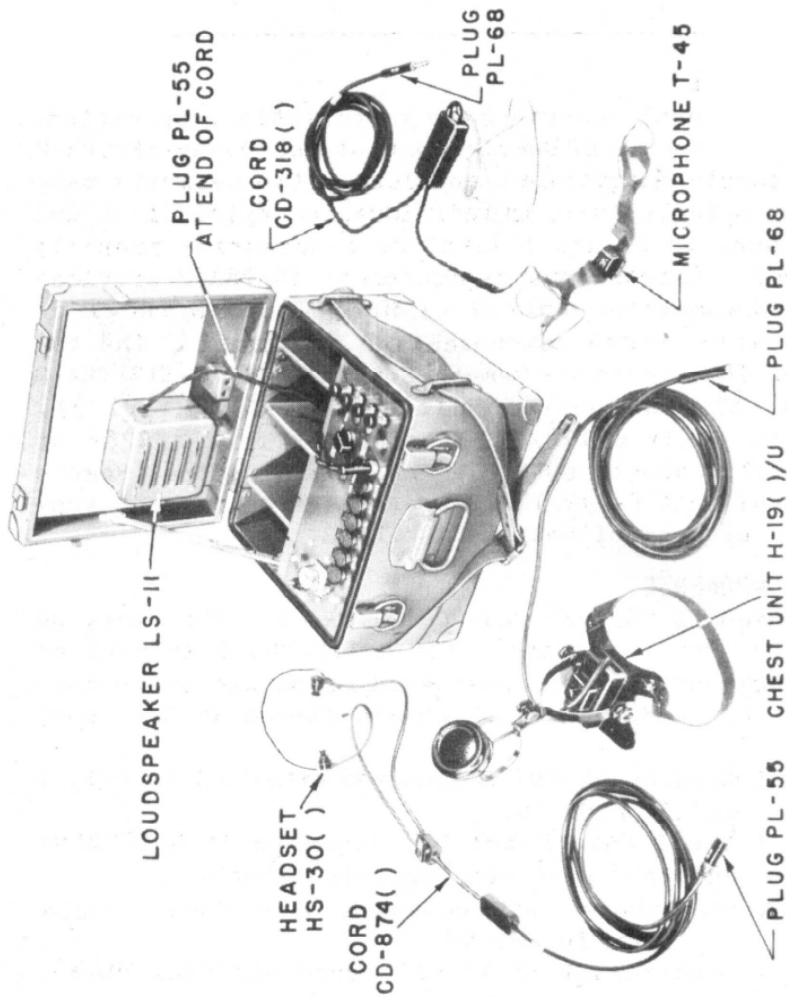
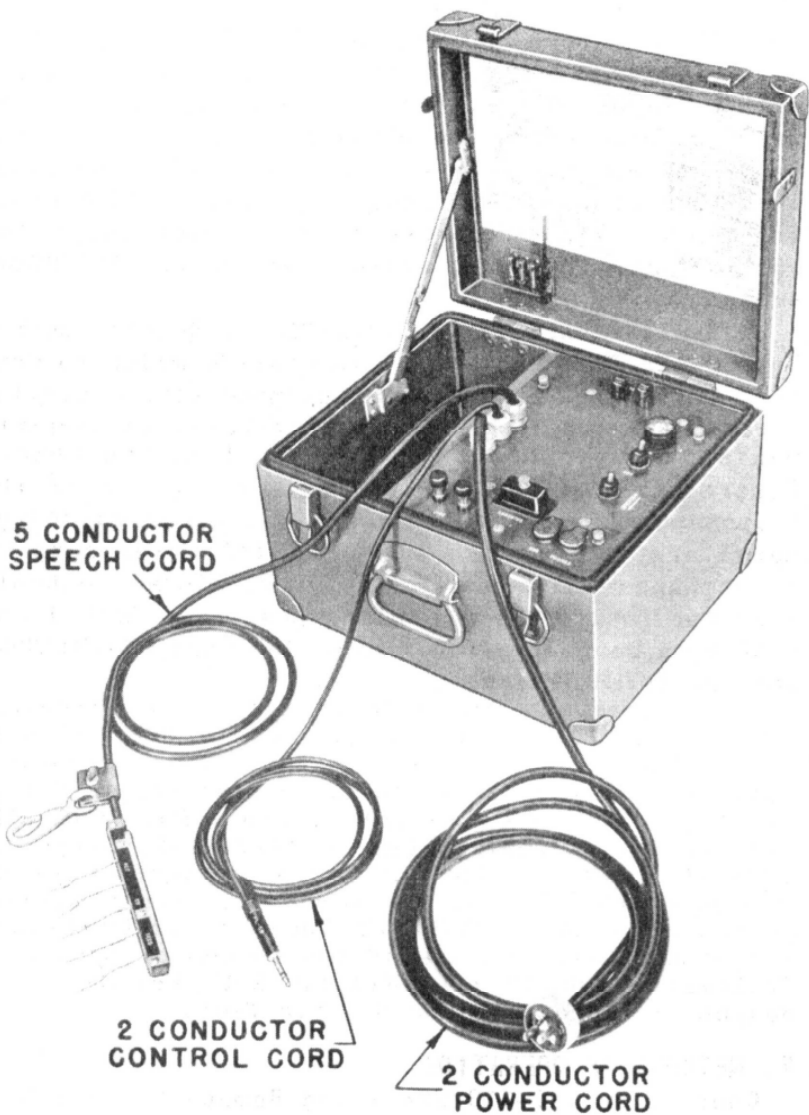

Fig. 2. Remote Control Unit C-112/TRA-2.
Fig. 3. Control Unit C-113/TRA-2.
This manual describes the installation, operation, and maintenance of Remote Control Equipment AN/TRA-2. The complete equipment consists of two separate man-transportable units in individual carrying cases and is shown in figure 1 with the accessories properly stored. Remote Control Equipment AN/TRA-2 provides for the remote control of Radio Set AN/TRC-1 or equivalent radio communication equipment. The two major components are Remote Control Unit C-112/TRA-2 (fig. 2) and Control Unit C-113/TRA-2 (fig. 3). Control Unit C-113/TRA-2 operates from a 115- or 230-volt, 50- to 60-cycle, a-c power source. Remote Control Unit C-112/TRA-2 operates from current supplied by Control Unit C-113/TRA-2.
b. Control Unit C-113/TRA-2 is provided with three fixed cords: a 6-foot, five-conductor *speech* cord; a 6-foot, two-conductor *control* cord; and a 10-foot, two-conductor *power* cord (fig. 3). The speech cord, terminating in a special five-pin connector, and the control cord, terminating in Plug PL-68, connect to Radio Transmitter T-14()/TRC-1 in the three methods of operation. The power cord, terminating in a standard outlet plug, connects to the 115-volt a-c power source of the transmitter.